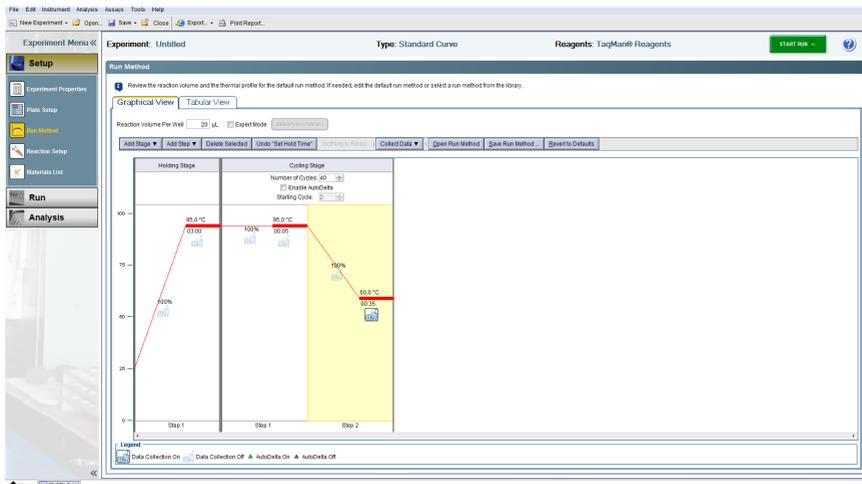

Figure 30. Adjusting the thermal profile (HID Real-Time PCR Analysis Software v1.2).
- On the thermal profile, change the holding times to those in Table 10. Change the Sample volume to **20 µL** (Figure 30).